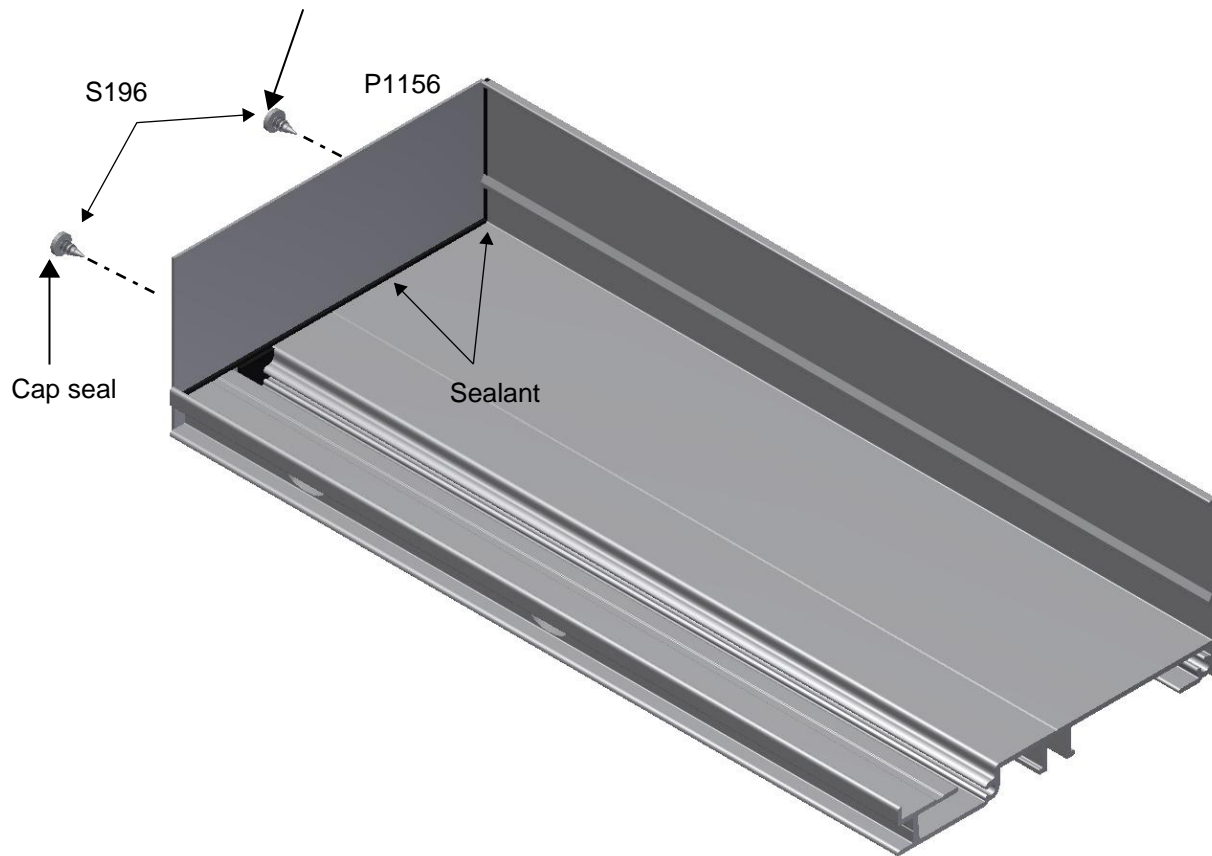

Figure 4: Attach an end dam to the end of the sill flashing at a wall.
- At a wall, attach a P1156 end dam to the end of the sill flashing with two S196 screws and seal the sill to the end dam as shown in Figure 4. Cap seal the S196 screws.